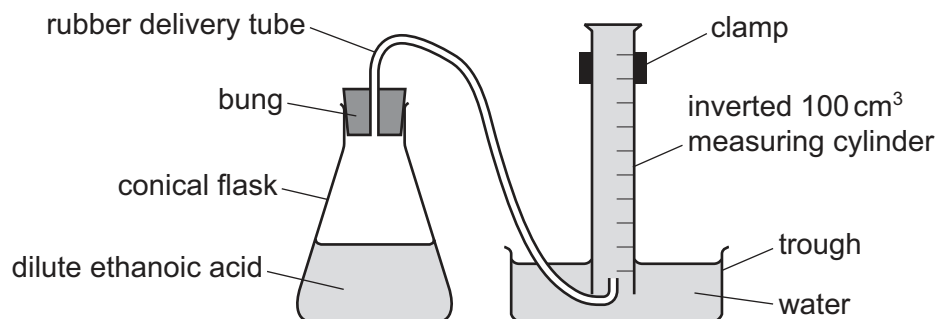

Fig. 1.1
You are going to do two experiments using the apparatus shown in Fig. 1.1.
- Set the apparatus up as shown in Fig. 1.1, ensuring the inverted 100 cm³ measuring cylinder is full of water.